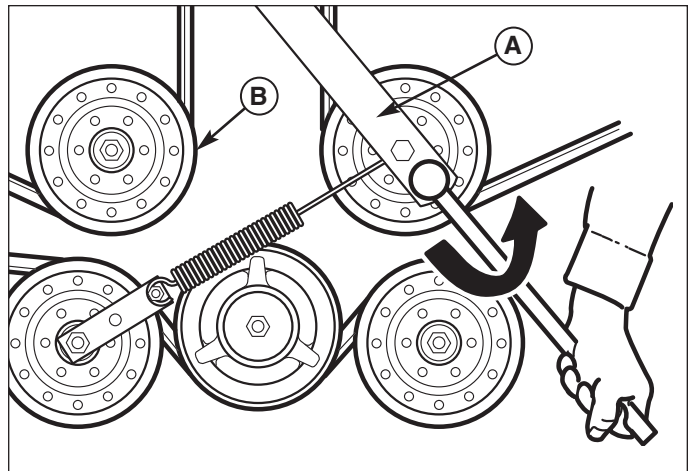

Figure 40. Mower PTO Belt
3. Using a 1/2" breaker bar, place the square end in the square hole located in the end of the idler arm (A, Figures 40). Carefully rotate the breaker bar counter-clockwise, which will relieve the tension on the belt exerted from the idler arm.
6. Install the drive belt on the PTO pulley, the spindle pulleys and all idler pulleys except the stationary pulley (B, Figure 40). Carefully rotate the breaker bar counter-clockwise and install the belt on the stationary idler pulley (B). Carefully release the tension on the breaker bar.